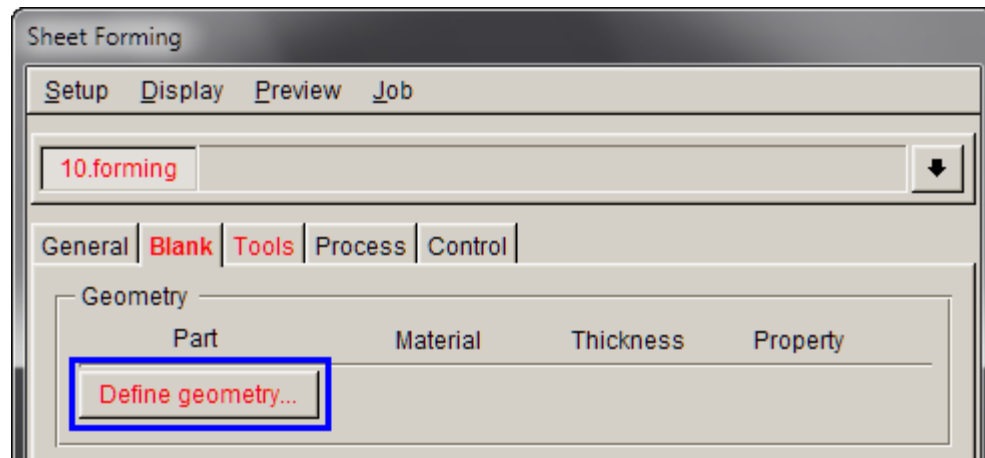

Figure 4
2. Click **Blank** illustrated in Figure 4.